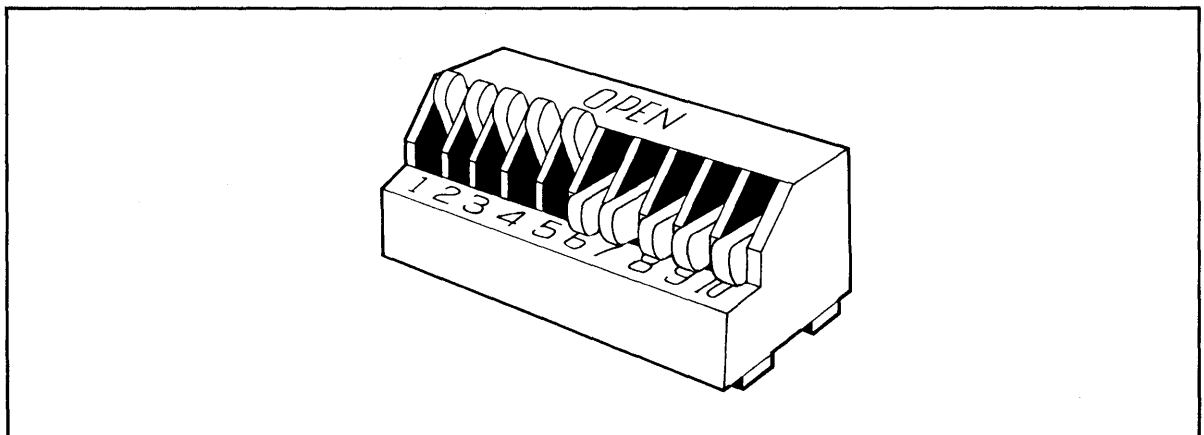

Figure 2-8 Dipswitches 1 through 5 Open; 6 through 10 Closed
3. Set dipswitches 1 through 3 using the settings described in Tables 2-2 and 2-3. (Figure 2-8 illustrates closed and open dipswitches.)